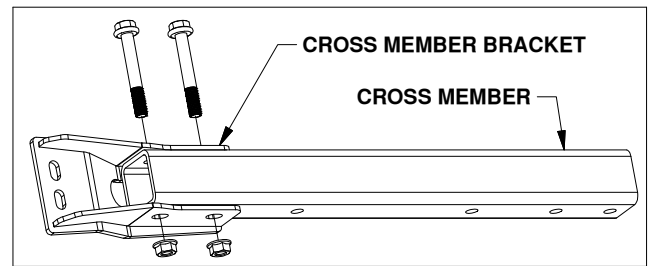
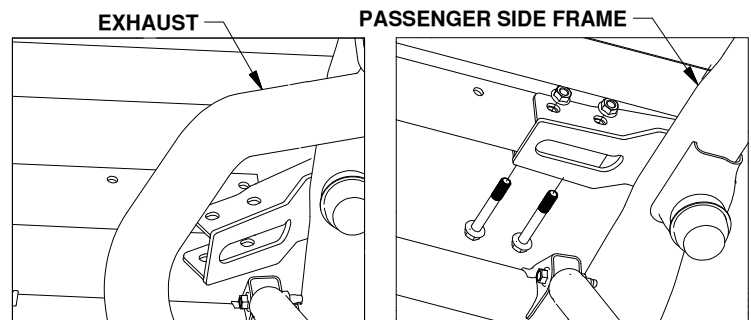
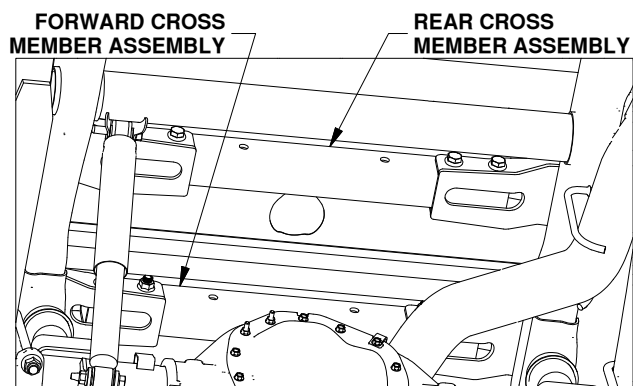

Figure B2: Cross member and bracket assembly.
Figure B4 & B5: View looking up at bottom of bed over axle.
Figure B6: View looking up at bottom of bed over axle.
- 3. Forward cross member assembly.** Attach the cross member bracket to the cross member by passing the 5/8" bolts through the two parts, as shown in Figure B2. Align the bolts so they are centered in the cross member brackets slots. Attach each bolt with a 5/8" flange nut. Push the cross member tightly into the cross member bracket so there is no gap between the two parts. Tighten and torque the 5/8" nuts to 150 ft. lbs.
- 5. Complete the cross member assembly.** Pass a cross member bracket between the exhaust and the passenger side of the frame, see Figure B4. The flat end of the cross member bracket will go over the frame and the other side will bolt up to the cross member. Bolt the two parts together so the connections match the other side of the cross member. Once assembled move the cross member assembly so its just forward of the mounting holes in the frame, see Figure B5. Hand tighten hardware only at this time.
- 6. Place the rear cross member.** Attach another cross member bracket to the remaining cross member as shown in Figure B2, leave the 5/8" bolts loose. Position the cross member behind the bed cross member and 4" hole drilled in the bed, see Figure B6. Attach a second cross member bracket to the cross member as shown in Figures B4 & B5. Hand tighten hardware only at this time.